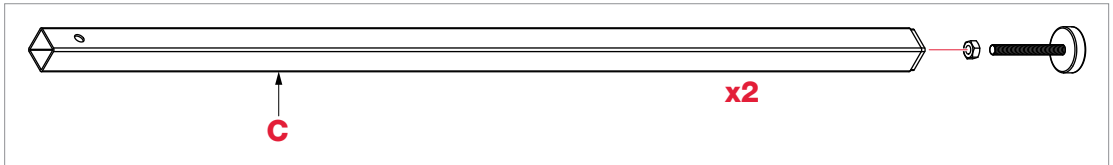

Fig. 46
- 14** Locate the two support legs (**C**) (see inventory in **Fig. 2 on page 3**) and remove the two leveling feet from the Support Leg Hardware Bag along with the two M8 hex nuts. Thread an M8 hex nut onto the threaded shaft of each foot so that the nut is close to the rubber base, and then thread the foot into the bottom of a support leg (see **Fig. 46**).